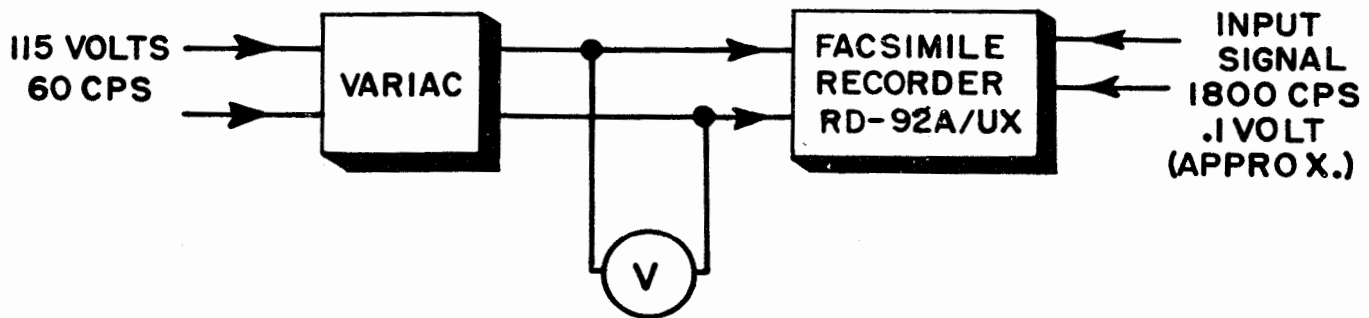

Figure 7-10. Connection Diagram for Selection of CIRCUIT TEST Correction Resistors
3. Connect the test circuit as shown in figure 7-10.